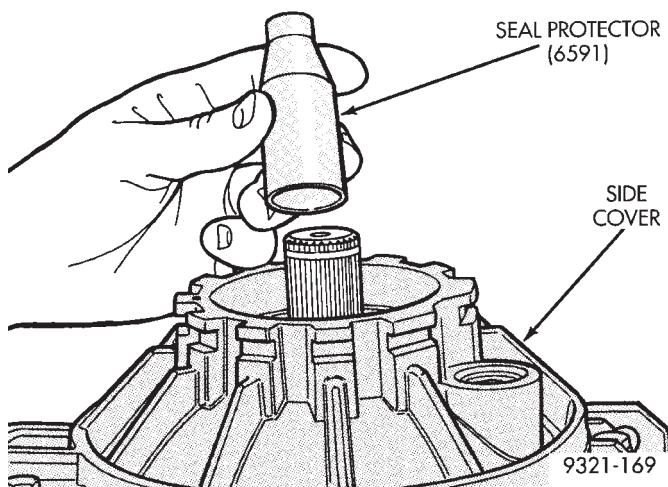

Fig. 318 Seal Protector
(27) Install seal protector (special tool 6591) as shown in (Fig. 318). Apply a thin film of gear oil on the protector.